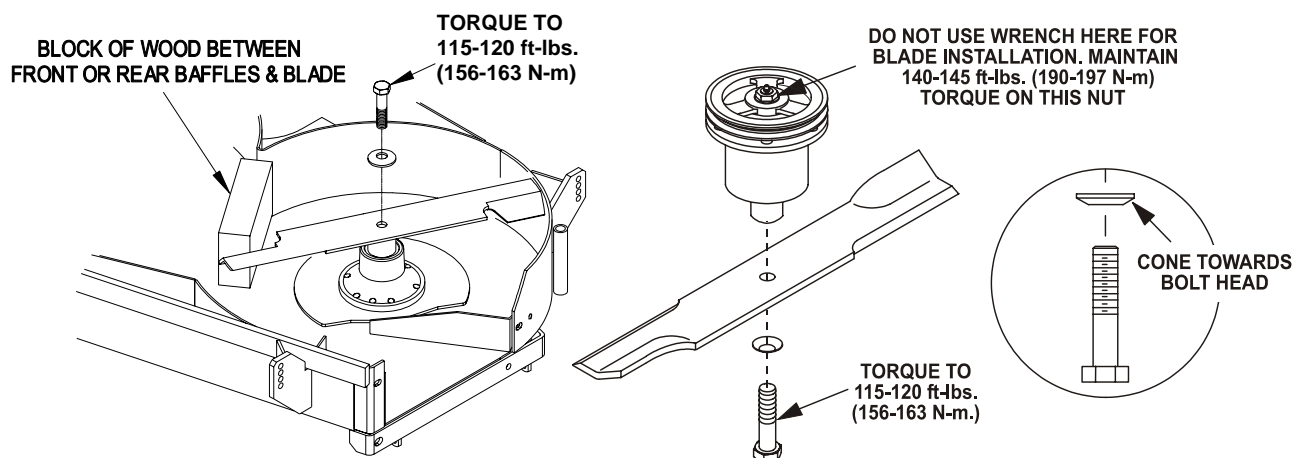

FIGURE 7
- Re-install the blades (if they were removed) by placing a block of wood between the front or rear baffles and the blade then torque the blade bolts to 115-120 ft-lbs. (156-163 N-m). Be sure the spring disk washer cone is installed toward the bolt head (See Figure 7).